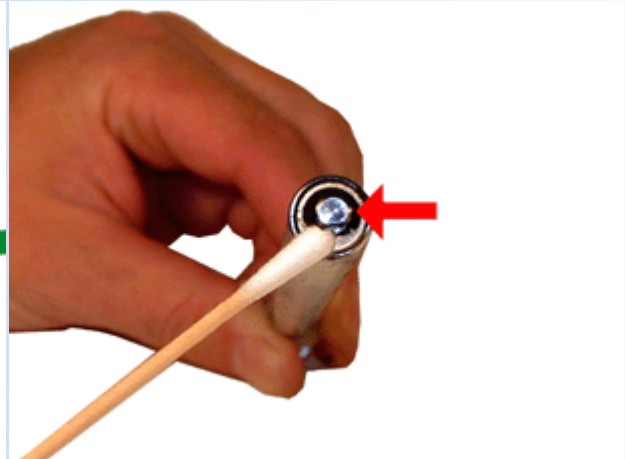

FIGURE 16
- 17. Clean the metal ends of the magnetic roller, and re-install. (Don't forget the gear!) See Figure 16